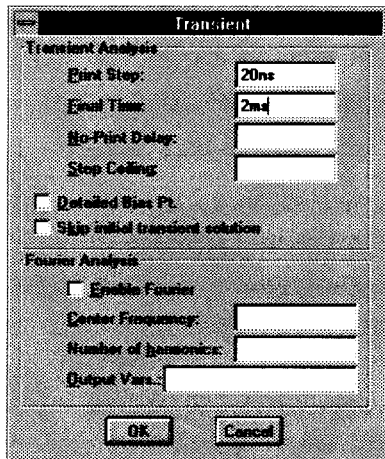

Figure 2-13 *Transient Analysis Dialog Box*
- 3 Set up the Transient dialog box as shown in Figure 2-13.